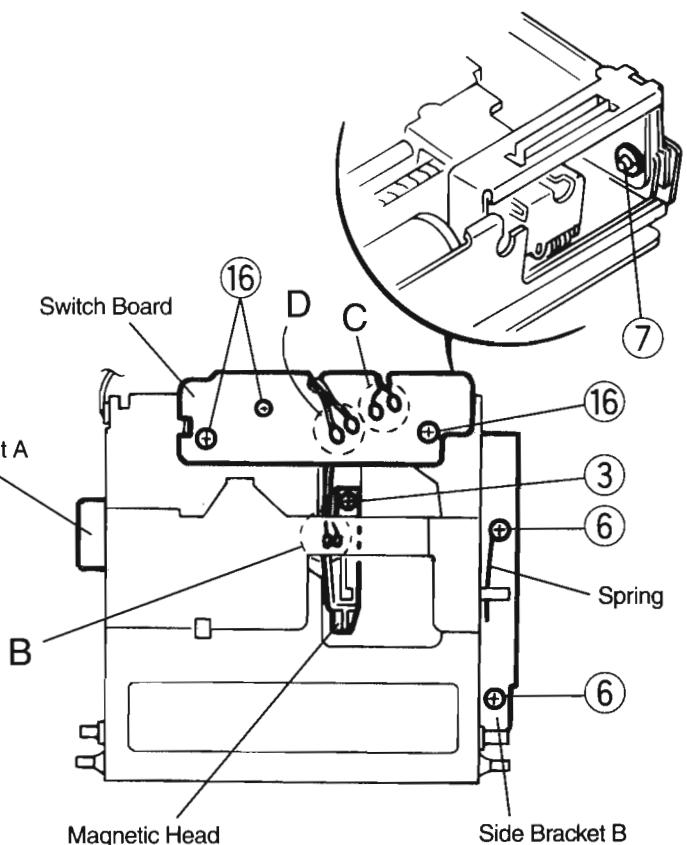
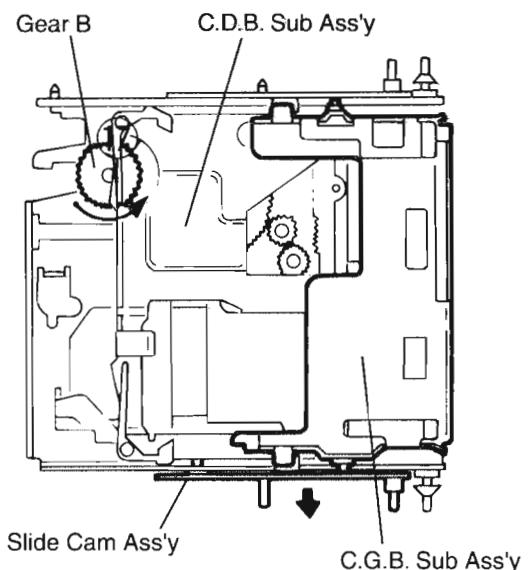

Fig.3
Fig.16
3) Removing the Magnetic Head(see Fig.3)
(see Fig.3,10-12)
1. Unsolder the two wires D outgoing from the loading motor. Similarly, unsolder the two wires C outgoing from the magnetic head (see Fig.3).
2. Remove the three screws ⑯ attaching the switch board (see Fig.3).
3. Remove the three screws ⑰ attaching the loading motor assembly.
4. Remove the two screws ⑱ attaching the loading motor.
1. Detach the traverse mechanism assembly from the loading mechanism assembly following the procedure mentioned in 4) (see Fig.3~6).
2. Detach the loading motor assembly following the procedure mentioned in 9) (Unsolder the two wires D and remove the three screws ⑯ only)(seeFig.10~12).
3. Turn the gear B counterclockwise to move the C.D.B. sub assembly to the position shown in the Fig.16.